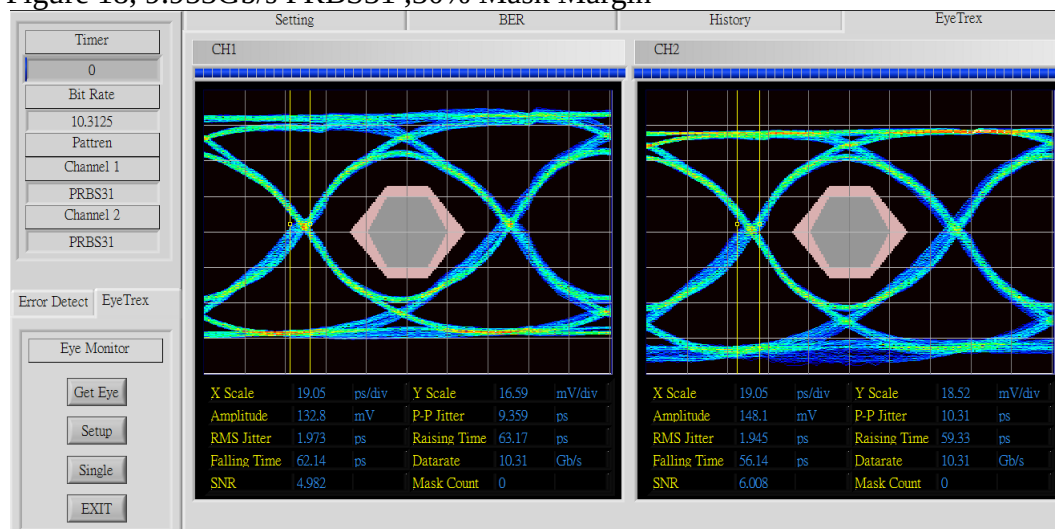

Figure 19, 10.3125Gb/s PRBS31, 30% Mask Margin
Step 2. Installation result in under the following folder Function panel >>All Functions>>User Libraries>>E-BER (Figure 19)